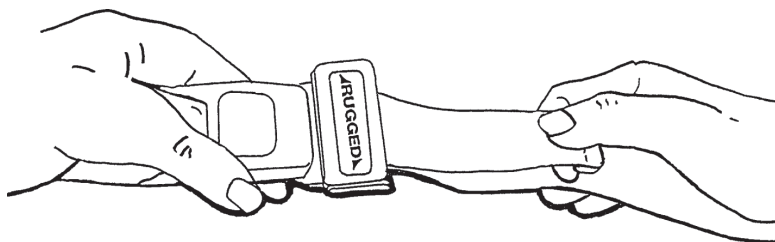

Figure 40.3: Shortening the Safety Restraint
- **To shorten the restraint**, grasp the hemmed tab and pull the webbing back through the latch plate until the required tightness is achieved (Figure 40.3).